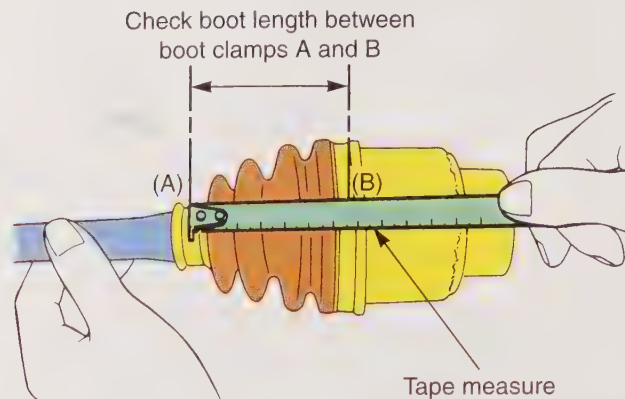

Figure 15-35. To ensure the CV joint has been reassembled properly, some manufacturers recommend checking the installed length of the boot. (General Motors)
16. Check the joint for free rotation at various angles. To ensure the joint has been properly reassembled, some manufacturers recommend checking the length of the joint between the boot clamps, **Figure 15-35**.